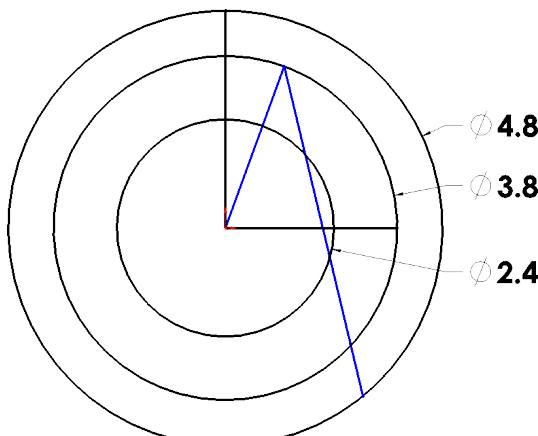

Fig. 3
Step 1. Click **Line**  (L) on the Sketch toolbar.
Step 2. Starting from the Origin  sketch **two radii** out to the middle circle, keep **one horizontal** and the other **at angle**. Sketch a vertical radii to outer circle. Sketch a line at angle from endpoint of radii to outer circle, **Fig. 3**. To terminate chain, double click back on the line you have just sketched.
Step 3. Click **Smart Dimension**  (S) on the Sketch toolbar.
Step 4. Dimension angles **70°** and **8°**, **Fig. 3**.